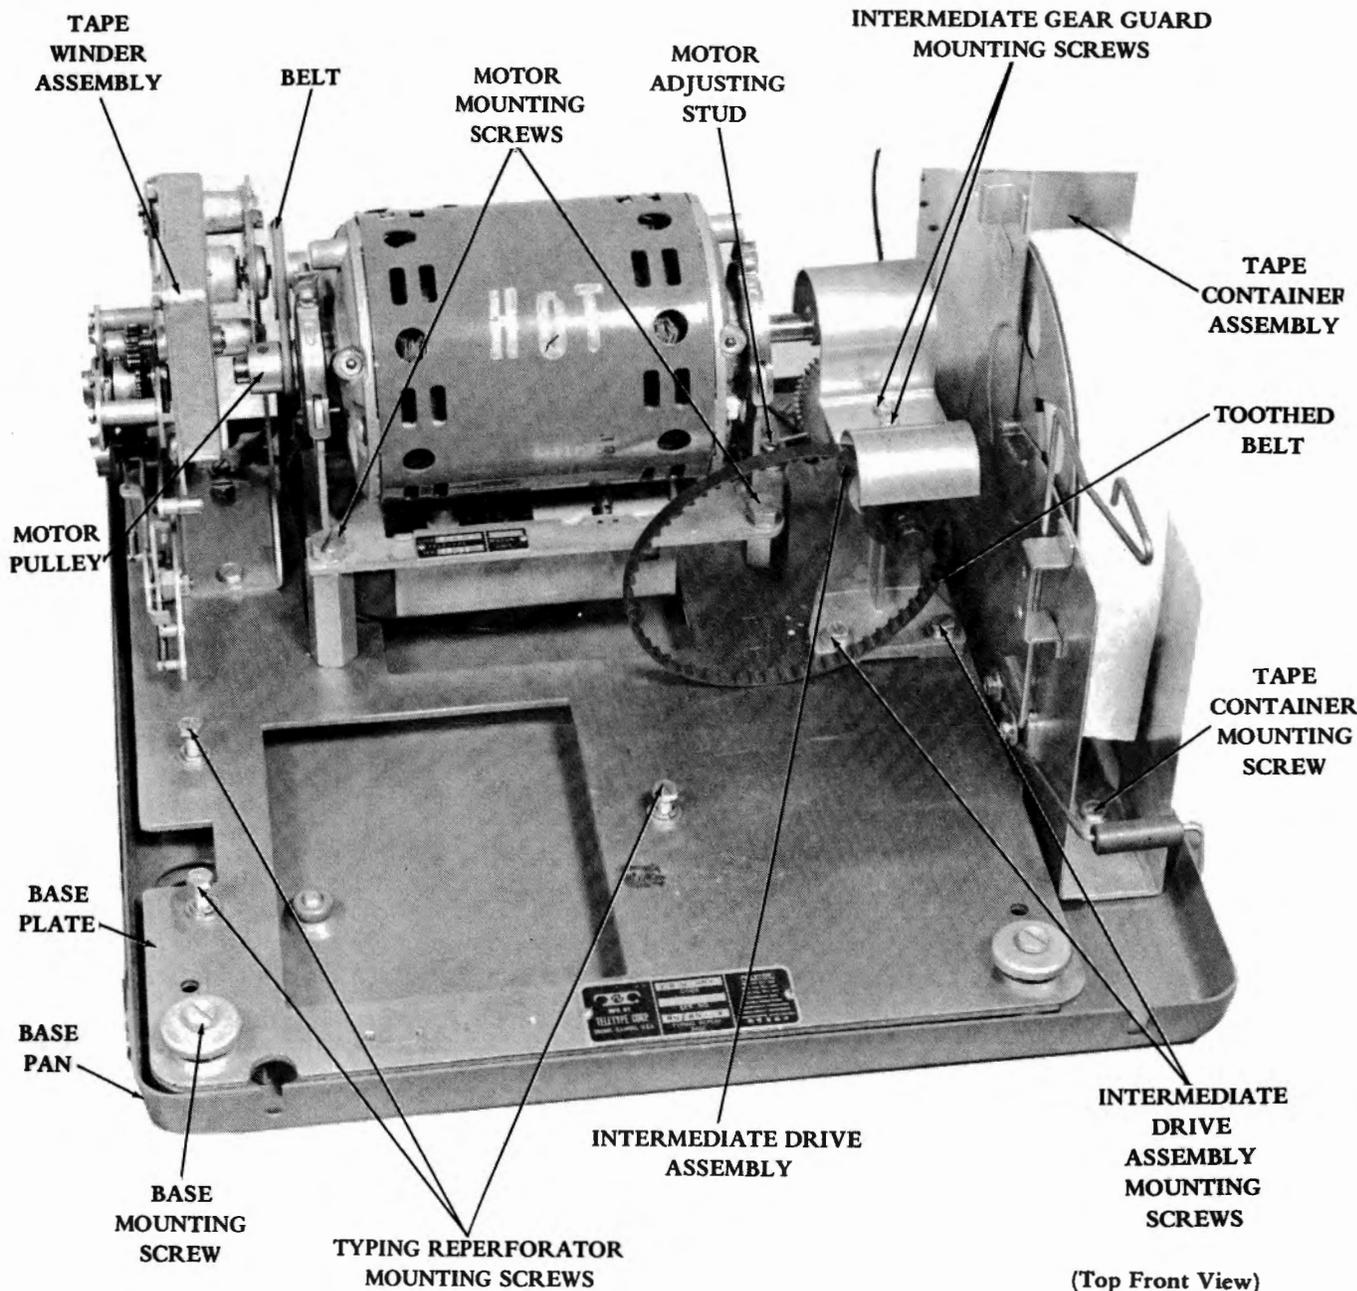

Figure 5 - Typing Reperfector Removed
2.03 To remove the motor unit (Figures 5 and 6), proceed as follows.
2.04 To remove the intermediate drive assembly (Figures 5 and 6), proceed as follows.
2.05 To remove the tape winder mechanism (Figures 5 and 6), proceed as follows.
2.06 To remove the tape container assembly (Figures 5 and 6), proceed as follows.
2.08 To remove the base plate (Figures 5 and 6), proceed as follows.